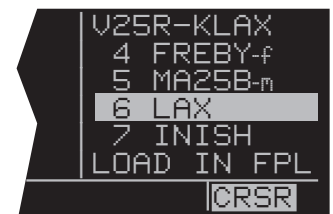

Figure 6-5
6. The KLN 900 next presents a list of waypoints that make up the approach. Review these waypoints to make sure that you have selected the correct IAF. If there are more than four waypoints in the approach you can move the cursor up to “scroll” the other waypoints into view by rotating the right outer knob (figure 6-5).